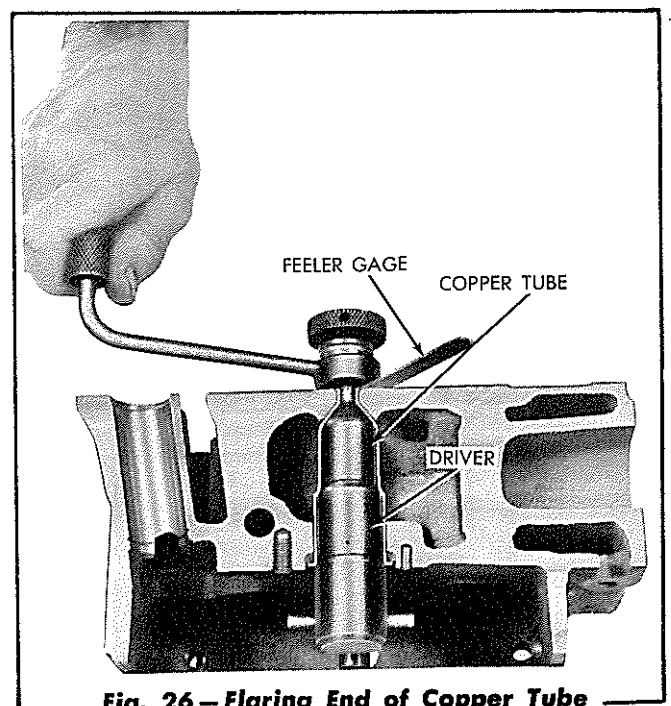

Fig. 26 - Flaring End of Copper Tube
- b. Place the spinning die over the threaded end of the driver as shown in Fig. 26.
- e. Place a .002" feeler gage between the cylinder head and the spinning die, as illustrated in Fig. 26, then, with a light tension on the nut, rotate the spinning die and flare the lower end of the copper tube into the cylinder head recess until a drag is felt on the feeler gage.